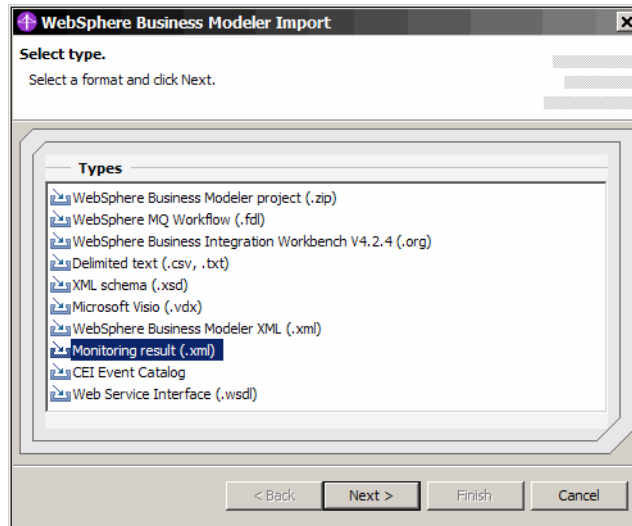

Figure 14-3 Modeler: Importing Monitor results (1)
- ▶ Select *Monitor result (.xml)* and click *Next* (Figure 14-3).